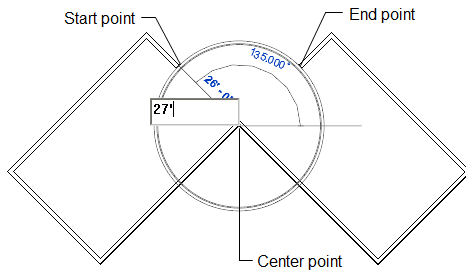

Figure 3-50 Starting the curved wall segment
- g. Use the **Center-ends Arc** sketching option to create the curved wall, refer to Figures 3-50 and 3-52.
1. Choose the **Center-ends Arc** tool in the **Draw** panel of the **Modify | Place Wall** tab. Move the cursor in the drawing window and click on the outer intersection of the inclined walls to specify the center of the curved wall, refer to Figure 3-50.
2. Move the cursor near the endpoint of the last sketched inclined wall segment. When 135-degree is displayed as the angular dimension, enter the value **27'(8100 mm)** as the radius of the curved wall and press ENTER, as shown in Figure 3-50. On doing so, the curved wall with the specified radius starts from the specified point.